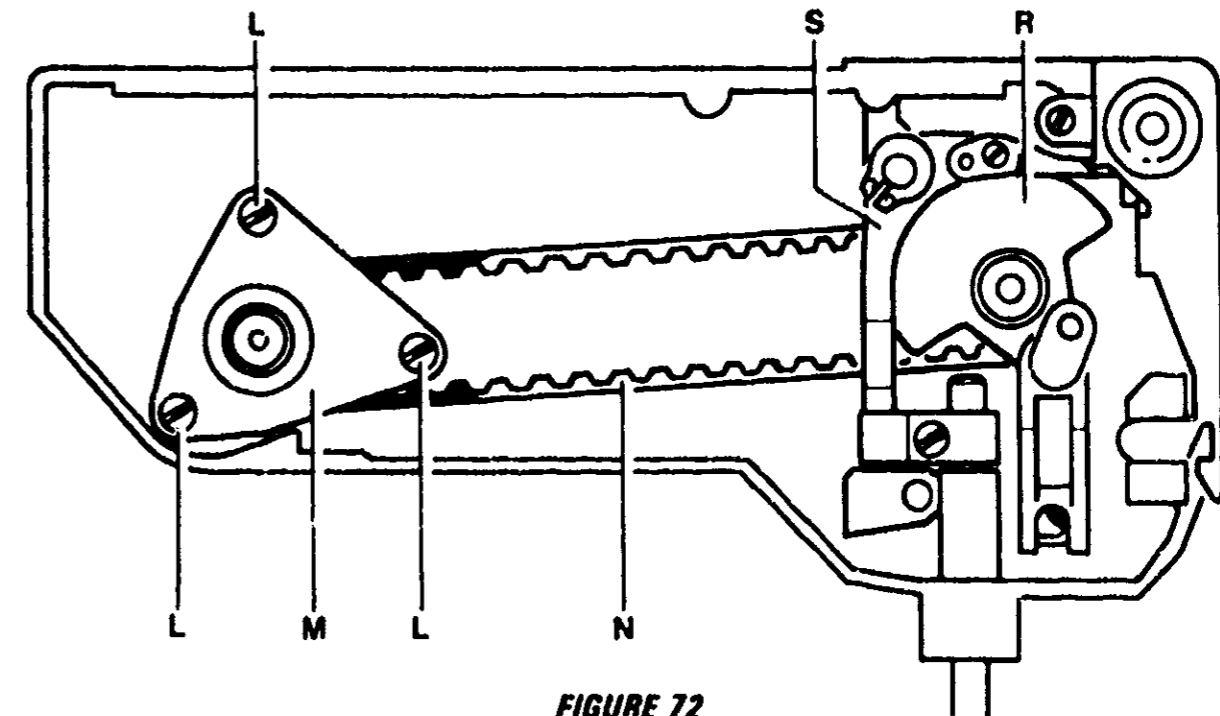

FIGURE 72
Loosen screws (L) (Figure 72) and remove upper shaft support (M) Slip cogged belt (N) off of the upper shaft toothed wheel